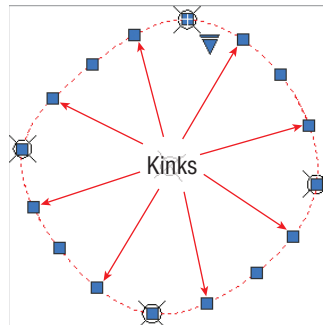

FIGURE 5.18 Adding kinks to the fit points spline
- Type **K** (for Kink), and click eight points in between all the existing fit points (see Figure 5.18). Press Enter three times to exit the command fully.